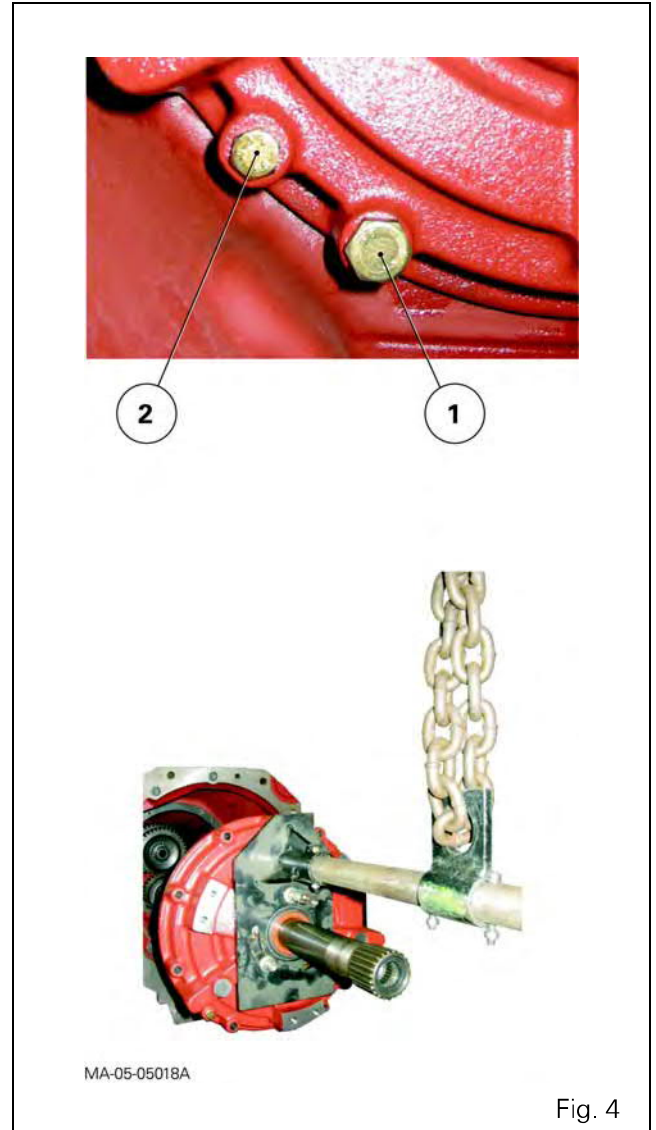

Fig. 4
8. Take out the M10 screws (1) (Fig. 4).
IMPORTANT: Do not take out the M8 screws (2) (Fig. 4) to avoid removing certain parts from the input unit.
9. Remove the gearbox input unit using tool ref. 3376883M1 (Fig. 4) and the handling bar (see § C).
Parts list (Fig. 4)